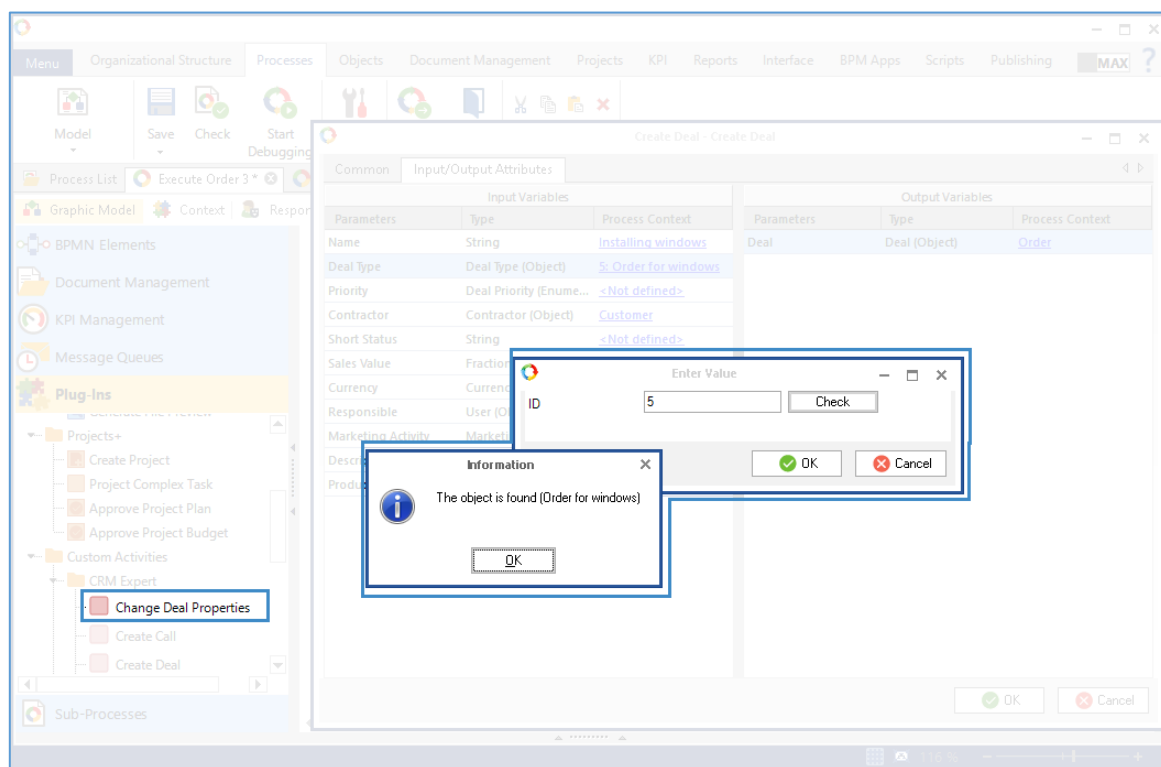

Fig. 151. Change deal properties activity settings. Deal stage ID
- **Deal Stage** – enter the **Deal Stage** ID. You can find the ID in the **Sales Funnel** settings window (Fig. 151).